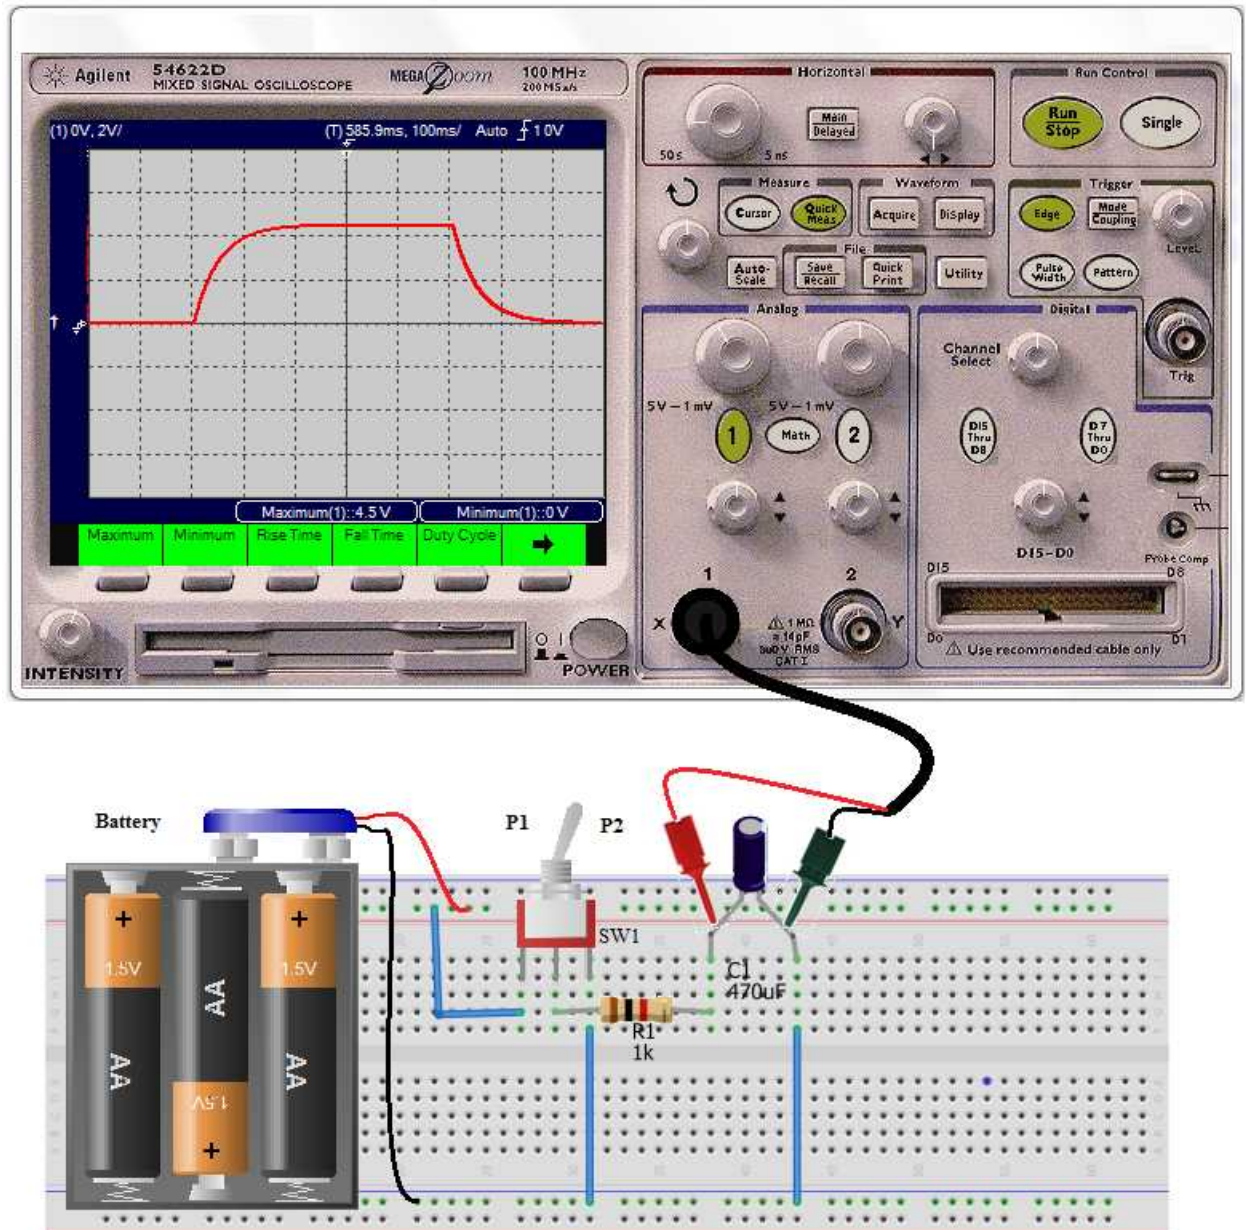

Figure 2-44: Circuit connection for charging and discharging a capacitor
1. Connect the circuit as shown in figure 2-44 by using specified items